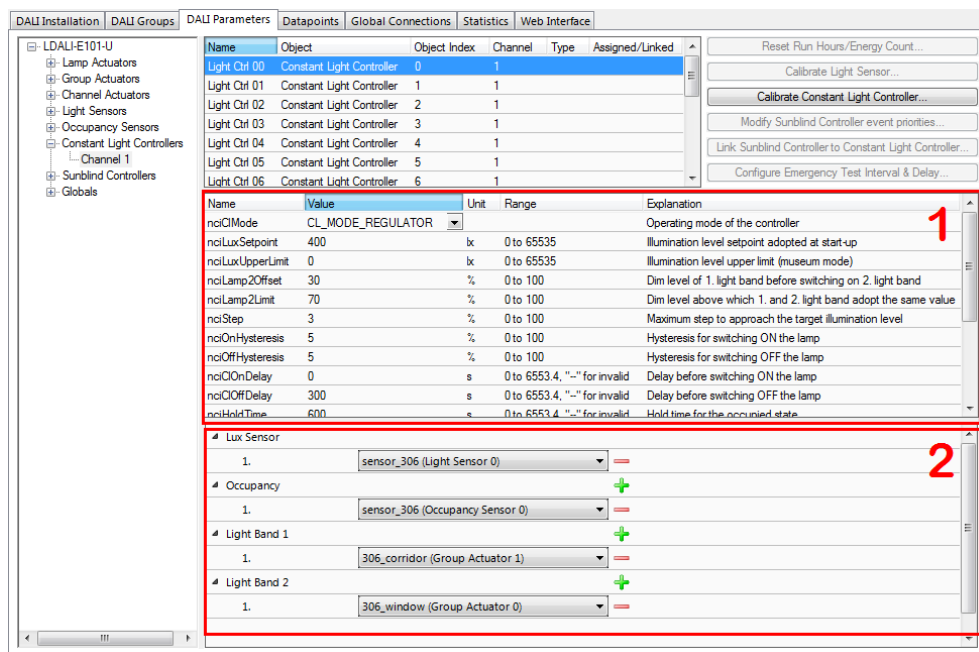

Figure 24: Parameterize Constant Light Controller.
2. Select the constant light controller with index 0 as shown in Figure 24. The parameters of the selected constant light controller are displayed in the middle of the window (1).